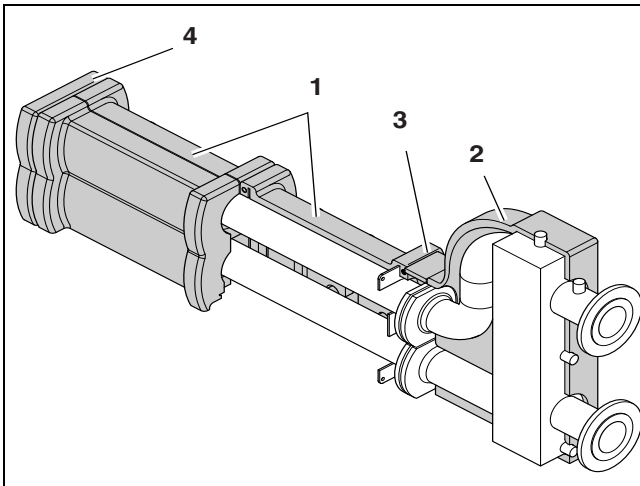

Fig. 10 Header
- Install the front insulation of the low loss header. If required, trim the insulation so that it is straight (→ fig. 10, [3]).
- Install the end cover over the header (→ fig. 10, [4]).
- Install the rear insulation over the header (→ fig. 10, [1]).
- Install the rear insulation part over the low loss header (→ fig. 10, [2]).
- If required, trim the insulation so that it is straight (→ fig. 10, [3]).